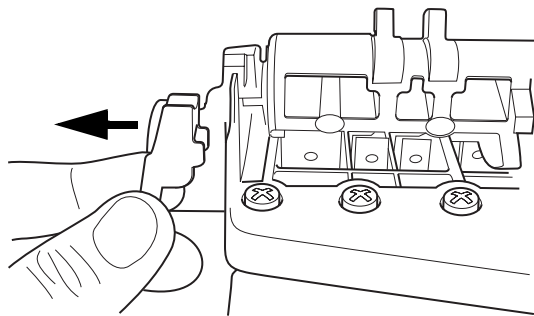

Figure 14
- Remove the yellow camshaft clip from the rear top plate hoop (Figure 14).